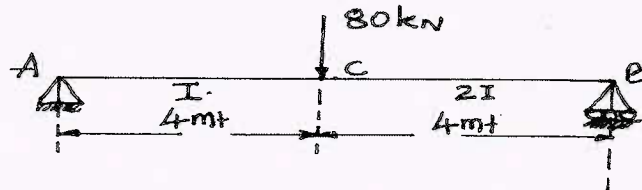

Fig.Q.5(b)
b. Determine the deflection at the load point 'C' for the beam shown in Fig.Q.5(b) by using strain energy method. (08 Marks)